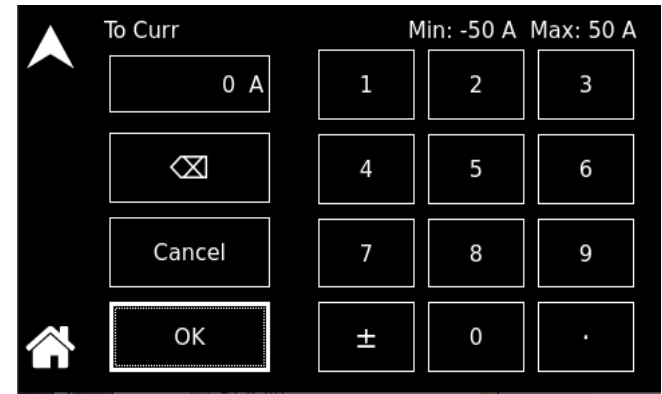

Figure 8-67. To Current
**To Curr** Sets the end current for the ramp. Refer Figure 8-67.